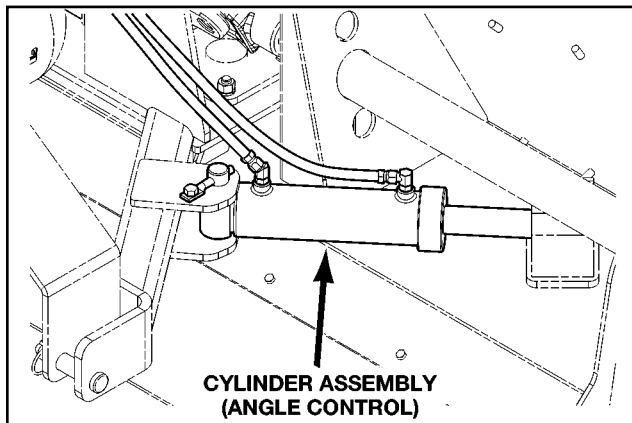

FIGURE 8 Hydraulic Angle - Cylinder Assembly
2. Angling Cylinder Function – The angling cylinder controls the angle of the rotor. The machine's angle determines which side the stone windrow discharges. Retracting the angling cylinder angles the machine to the right. Extending the angling cylinder angles the machine to the left. (See Figure 8).